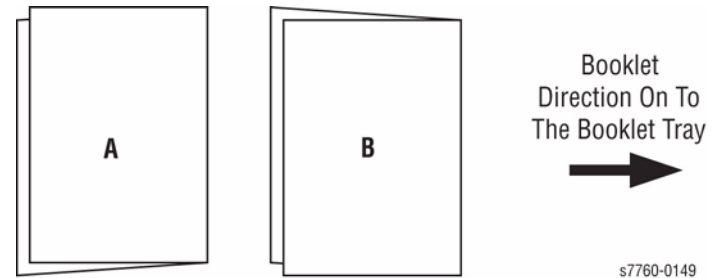

Figure 2 Type of Skew
- Observe the booklet as it comes out on to the Booklet Tray (Figure 2) and determine the type of skew.